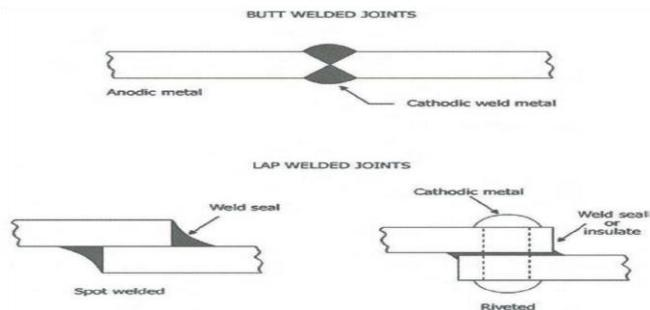

Figure 12: Improvement of design by welding the joints
a) Simplify forms: structures having simpler forms can be protected easily and efficiently. A complicated shape having more angles, corners, edges and internal surfaces will have a larger surface area exposed to the corrosive environment and will be difficult to protect by painting or other surface treatment. Improvement in design can be achieved through welding the joints as shown in Figure 12.